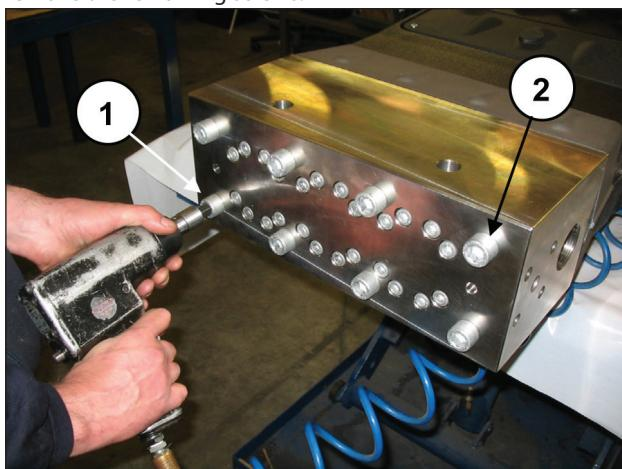
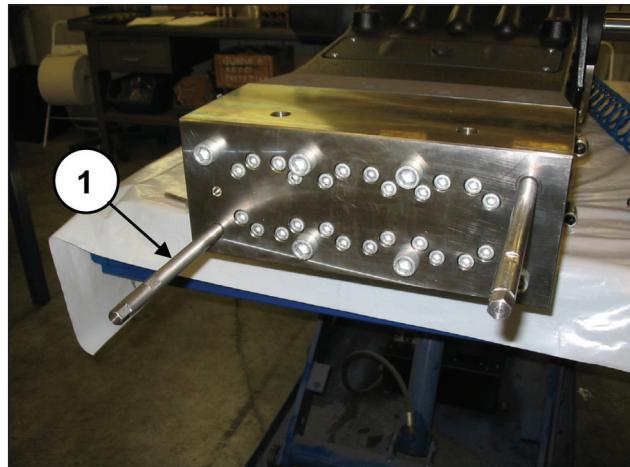

Fig. 97
Fig. 98
Unscrew the two diametrically opposed M16x320 head fixing screws (pos. ① and ②, Fig. 97) and replace them with two service screw-pins (code 27540200) (pos. ①, Fig. 98), then remove the remaining screws.